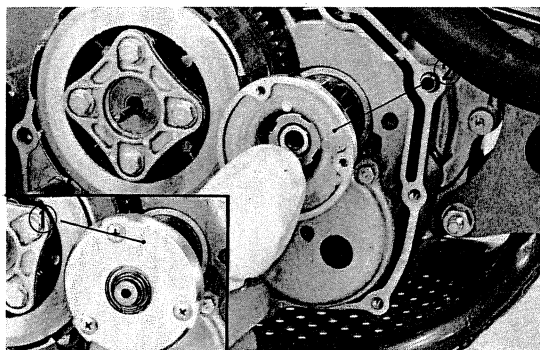

Fig. 4 ① Oil filter rotor cover ② Oil filter rotor
- 6) Clean any sludge off the center of the oil filter rotor. (Fig. 4) Reassemble the filter.